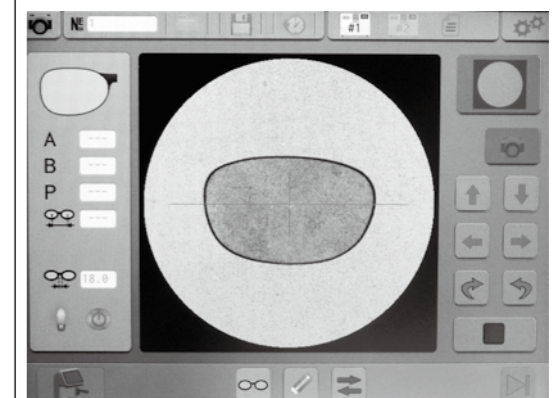

fig.3
3. Put the facing or templet on the shooting area. Try to make the graph in center of cross horizontal. (fig.3)